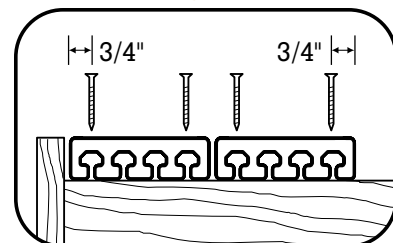

Fig. 11
- Run each screw 3/4" from the outside edge of each plank, using two screws per joist (Fig. 11).